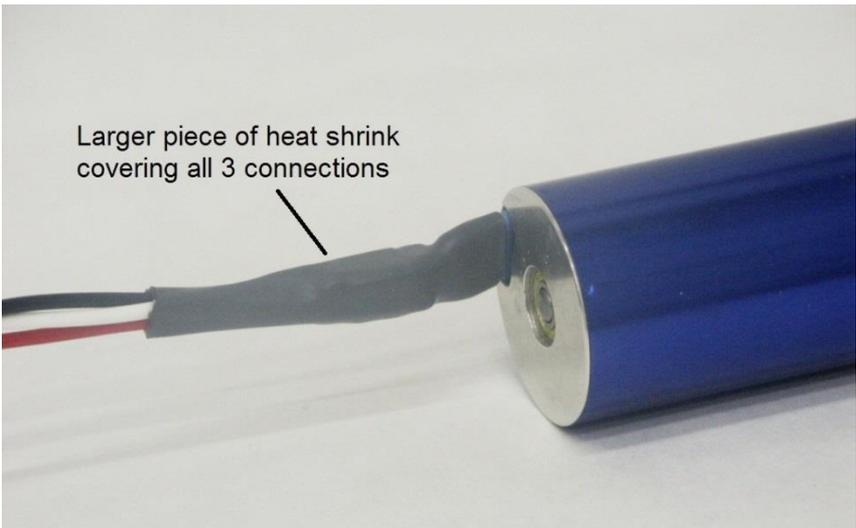

Figure 4-10: Heat Shrink all Connections
- While the heat shrink is still hot, coil the bundle into a “pigtail” behind the motor (Figure 4-10) to make room for the assembly within the inner housing when re-assembled.